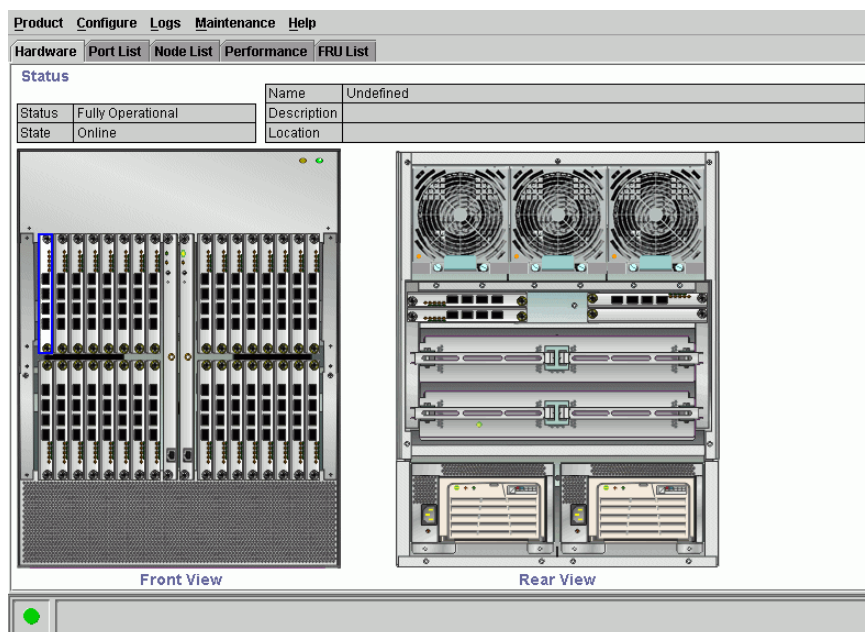

Figure 24: Hardware View page (with FRU failures)
2. Right-click the **Director-140** icon. A pop-up menu for the selected director displays, as shown in Figure 24.